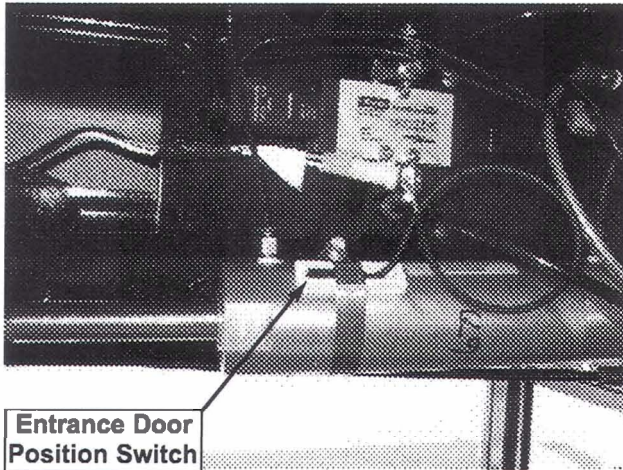

Figure 3
3. Locate the entrance door position switch clamped to the air actuator. **Figure 3**